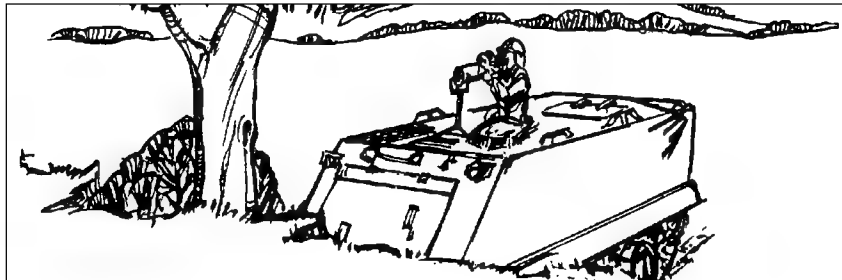
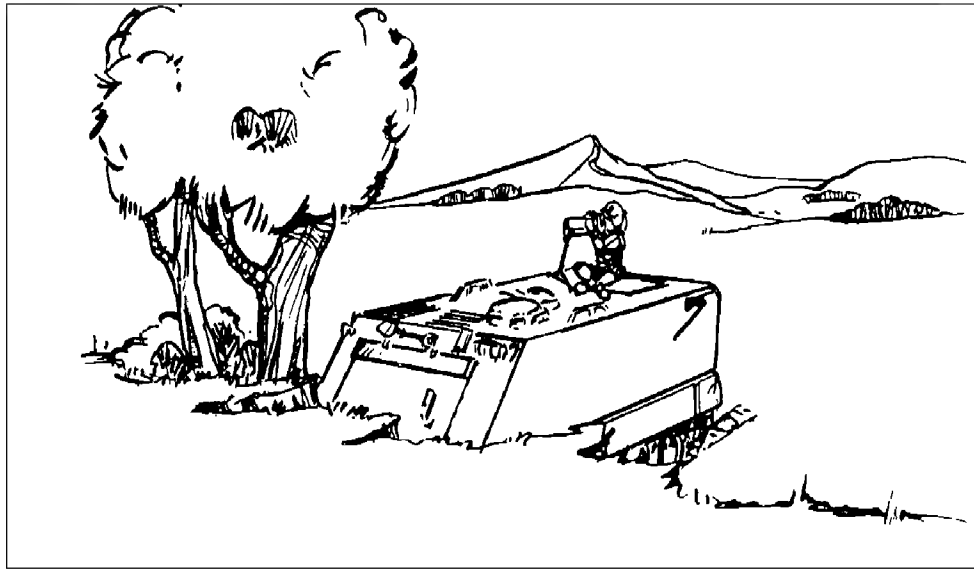

Figure E-3. Firing the Dragon from the commander's hatch.
Figure E-4. Firing from a closed hatch.
b. If not using the M175 mount, the gunner stands in the track commander's hatch, places the Dragon's bipod legs in the grill on top of the APC, and fires the weapon (Figure E-3). He could also sit on the closed cargo hatch and fire the Dragon as if he were on the ground (Figure E-4, page E-3).